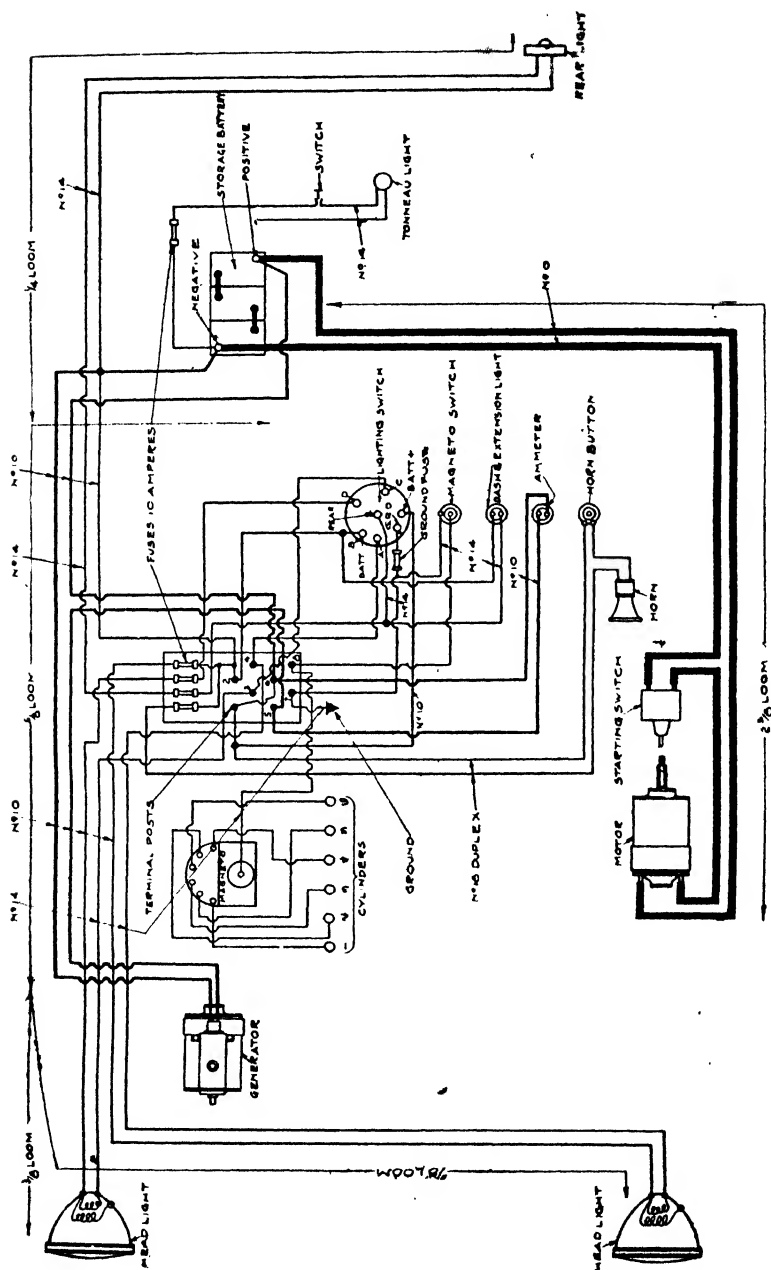

Fig. 229. Bijur System (Two-Wire) Installed on the Jeffery Chesterfield Six
*Jeffery.* Fig. 229 illustrates the six-volt two-wire system used on the Chesterfield Six Model. With the exception of the out-of-
To determine whether generator is inoperative remove wire leading from the ammeter to No. 5 post of the junction and fuse block, Fig. 229, then connect voltmeter to terminals 2 and 5 and run engine as previously directed. A fuse is in the ground circuit between the magneto tap and the lamp controller and this fuse will blow if an accidental ground is made on either side of the system. The blowing of this fuse when the lamp controller is in the *off* position, shows that the accidental ground causing it is on the positive side of the system. Should the ground fuse blow when the lamp controller is in the *all bright* or *out of focus bright* positions, it shows that the accidental ground is on the negative side of the system. In testing the wiring to locate grounds, the headlight bulbs should be removed and the ground wire leading to connecting post No. 7 of the fuse and terminal block should be disconnected, and the magneto switch should be placed in the running position. With the ground fuse blown, the following lighting conditions obtain. Controller at *in focus bright* position, lamps will burn normally. At *out of focus bright* position lamps will not light; at *all bright* position: